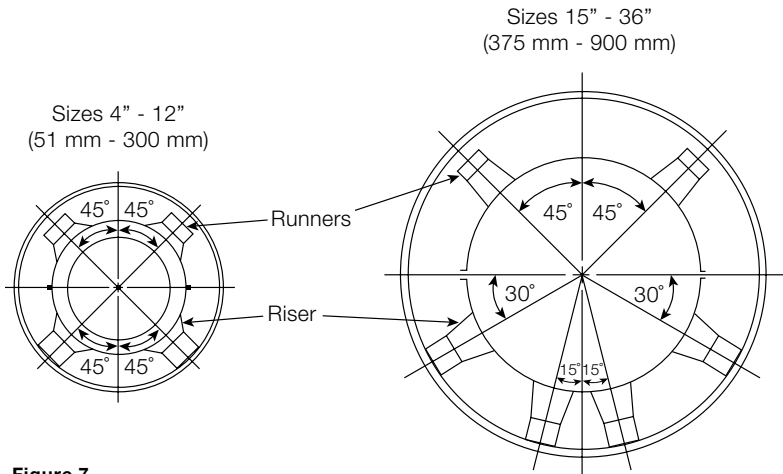

Figure 7
To pull the pipe, a cable is passed through the casing and the first pipe length. The cable end is fastened to a suitable crosspiece at the bell of the pipe as shown in Figure 7. The cable is then pulled steadily (not jerked) by a truck winch, dozer or other method until about 2 feet of pipe is left projecting out of the casing. After the cable is passed through the next pipe, the two pipe sections are assembled and the pulling operation is repeated.
1. Arrange the skids/spacers and position braces on the pipe as shown previously (Figure 7) They will accommodate the grouting house.